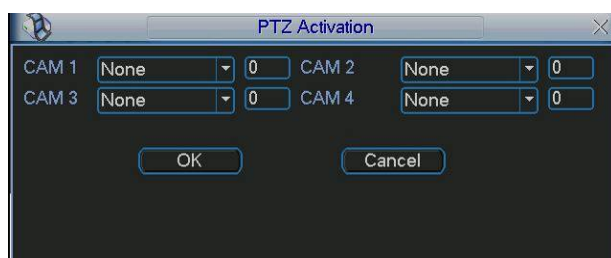

Figure 4-20
- PTZ activation: Here you can set PTZ movement when alarm occurs. Such as go to preset, tour & pattern when there is an alarm. Click “select” button, you can see an interface is shown as in Figure 4-20.